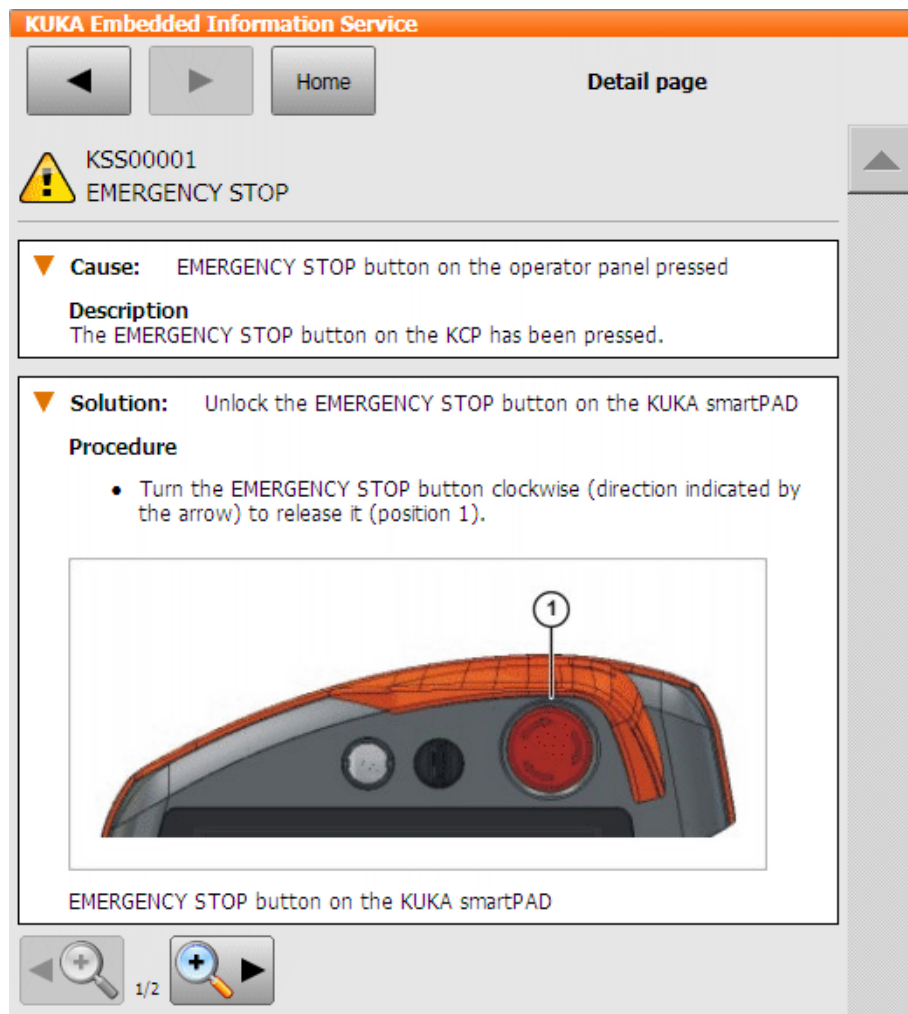

Fig. 4-10: Detail page – Example from the KUKA System Software
- a. Touch the magnifying glass button next to the cause. The detail page is opened. (>>> Fig. 4-10)
6	Displays details about this cause/solution. (>>> Fig. 4-10)